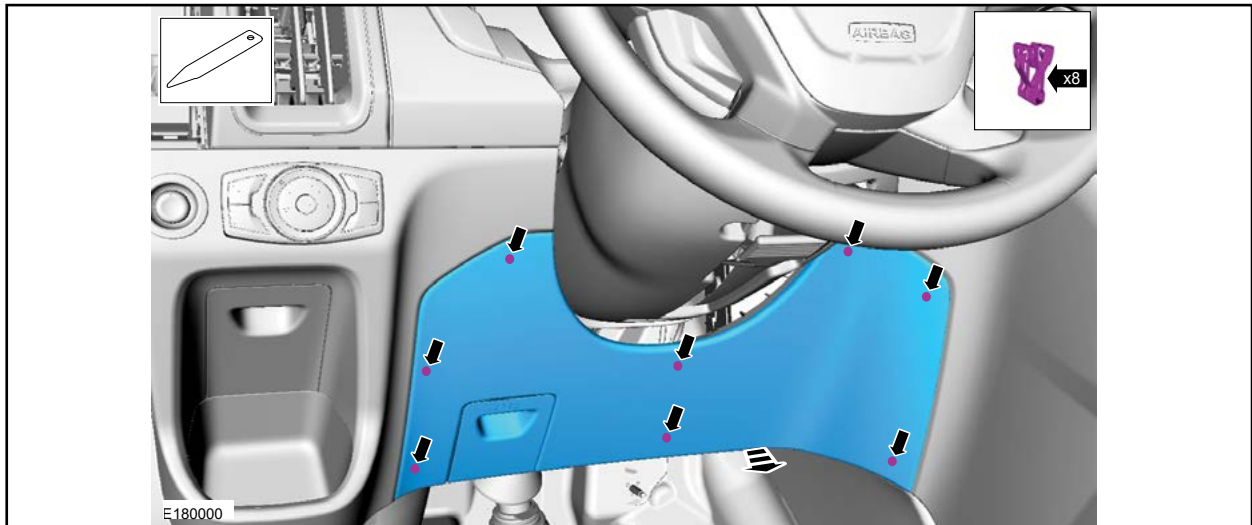

FIGURE 6
2. Release the eight clips and remove the lower steering column opening trim panel. See Figure 6.